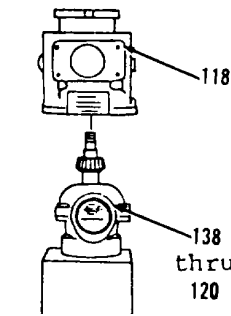
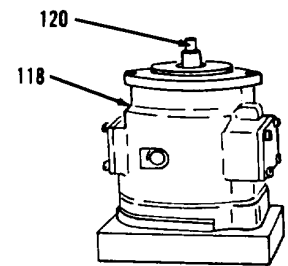

Figure 10-37.
Figure 10-57.
40. Position items 138 thru 120 as an assembly (Figure 10-37) on block.
41. Position body (118) onto items 138 thru 120 as an assembly.
42. Remove block and push (120) into body (118, Figure 10-57).